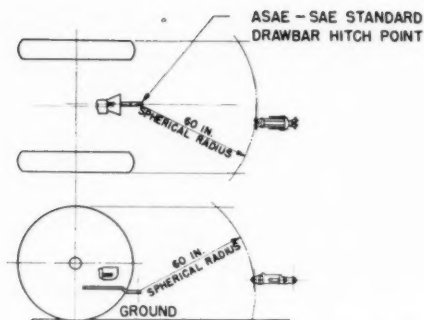

Fig. 4 Hose length diagram for wheel-type tractor drawbar — 60-in spherical radius (A.S.A.E.—S.A.E. Standard)
rains which saturate the soil (Fig. 4).
Fig. 4 Root development of plants grown on drained and undrained soils. Root growth is restricted to the soil area above the "perched" water table. When water recedes after a long wet spell, root extension is usually limited
- 11 *Standard Hose Lengths for Remote Hydraulic Cylinders.* The tractor manufacturer shall provide sufficient lengths of hose so that the hydraulic cylinder, provided with tractors having a work capacity up to 6,000 lb maximum drawbar pull, is operable when the front anchor pin is located at a maximum 60-in spherical radius from a center which is the A.S.A.E.—S.A.E. Standard Drawbar Hitch Point (Fig. 4).